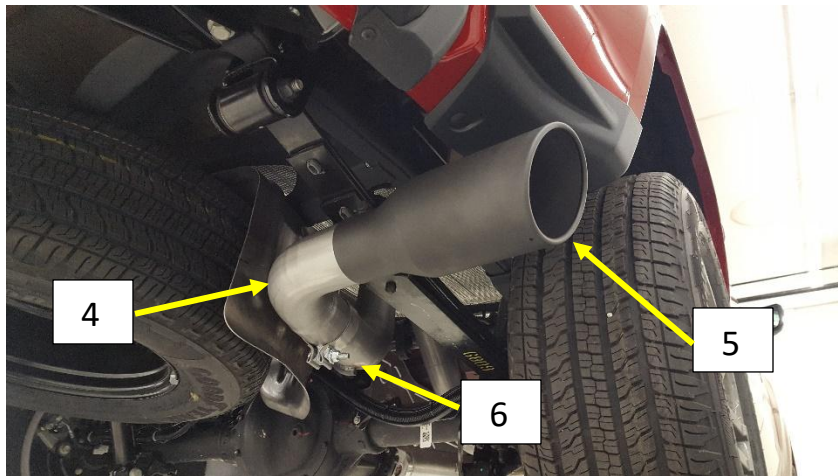

Figure.5
10. Install a supplied 3.0" band clamp (6) onto the expanded end of the turnout tip extension with the bolt at the bottom and the nut facing out. Fig.5
12. Install the supplied exhaust tip (5) on to the extension pipe, adjust to desired position and tighten the clamp bolt. Fig.5